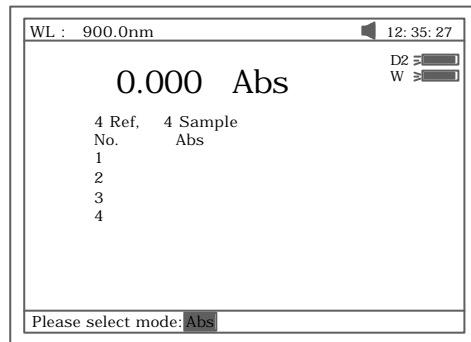

Fig 103
2. Press **【F2】** to select test mode (Abs or %T, Fig 103).